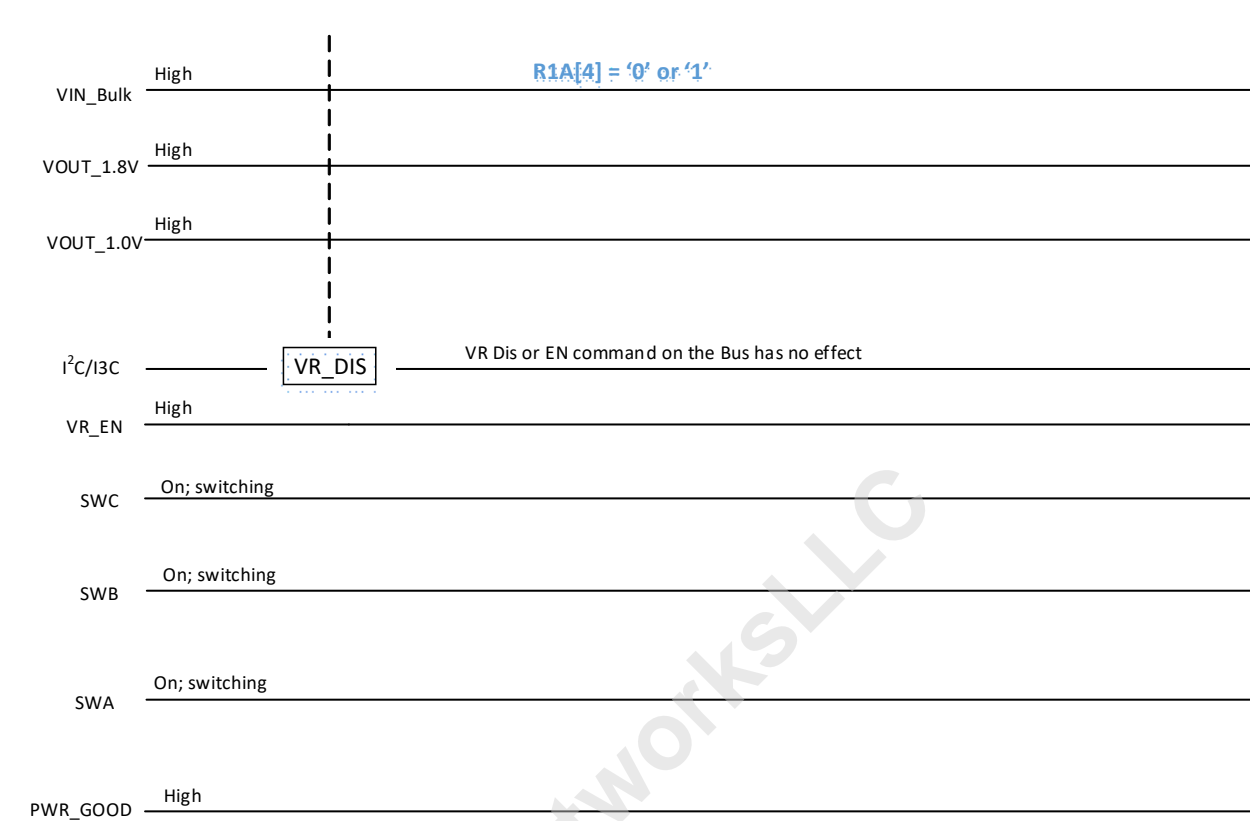

Figure 31 — VR_DIS or VR_EN CMD on Bus; R1A[4]=x; Secure Mode; PWR_GOOD Signal
- a. Note that VR Disable or Enable command on a I²C/I3C Basic Bus (i.e., Table 138, “Register 0x32” [7] = ‘0’ or ‘1’) has no effect on the PMIC. Also, configuring one or more bits in Table 135, “Register 0x2F” [6,4:3] to ‘0’ has no effect on the PMIC. See Figure 31.
- a. Note that VR Disable or Enable command on a I²C/I³C Basic Bus (i.e., Table 138, "Register 0x32" [7] = '0' or '1') has no effect on the PMIC. Also, configuring one or more bits in Table 135, "Register 0x2F" [6,4:3] to '0' has no effect on the PMIC. See Figure 31.